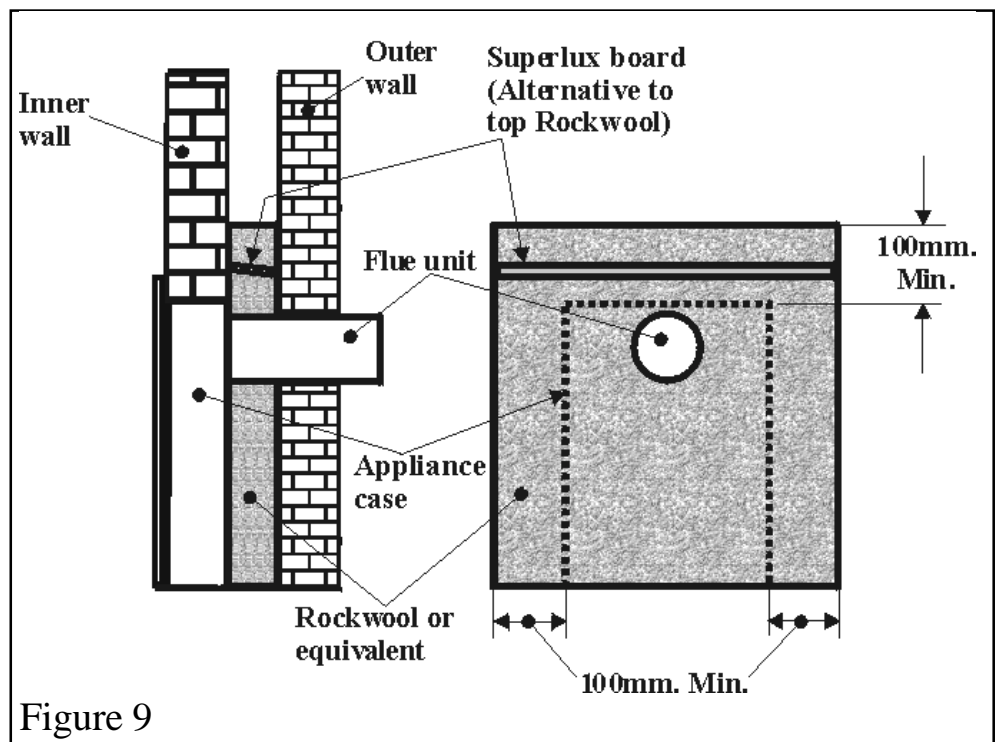

Figure 9
equivalent to at least 100mm above and each side of the recess opening. See figure 9.
- An alternative to rockwool **above** the opening is to seal across the top of the cavity with superlux board or equivalent. The board should slope downwards to the back so that any moisture will be channelled to the outside. See figure 9.